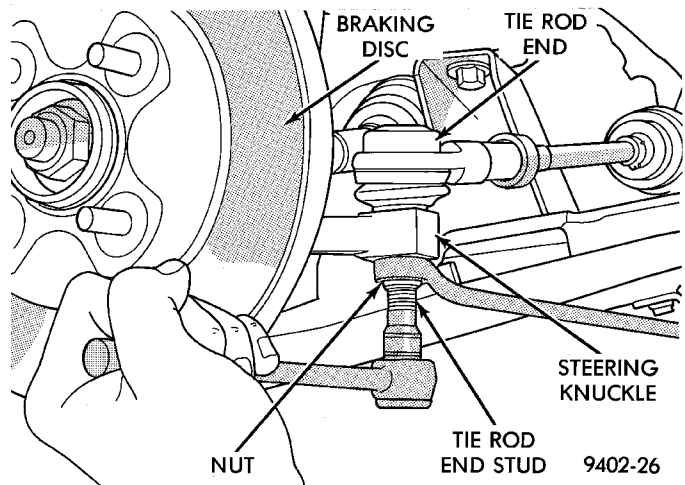
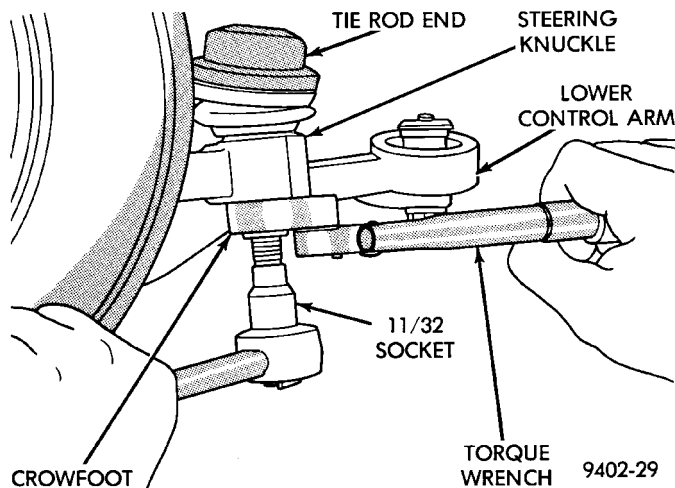

Fig. 20 Removing /Installing Tie Rod End Attaching Nut
Fig. 22 Torquing Tie Rod End Attaching Nut
(2) Remove the nut attaching the outer tie rod end to steering knuckle (Fig. 20). **Nut is to be removed from tie rod end using the following procedure, hold tie rod end stud with a 11/32 socket while loosening and removing nut with wrench.**
ing knuckle attaching nut (Fig. 20). Then using a crowfoot and 11/32 socket (Fig. 22), torque the tie rod end attaching nut to 61 N·m (45 ft. lbs.).